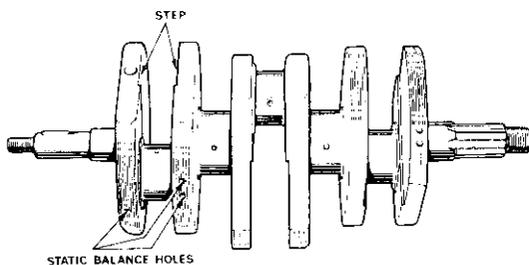

Fig. 1. Current crankshaft
- (I) Early condition—turned webs.
- (II) Late current condition—milled webs with step (as shown in Fig. 1).
- (a) Remove the crankshaft and check the number of static balance holes (See Fig. 1). If there are more than four holes in any pair of webs, the crankshaft must be replaced and returned to the Service Department for salvage.